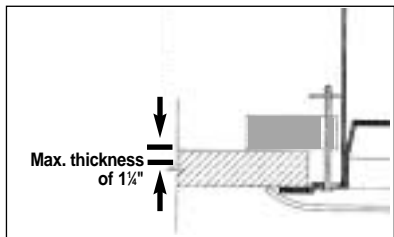

FIG. 4
**Figure 4:** Enclosure installation from below ceiling without tile bridge. This blind-mount installation method, which is most common in plaster, drywall and retrofit applications, is accomplished by cutting an opening to size, inserting the enclosure and rotating the clamps. Max. ceiling thickness is 1 1/8”.